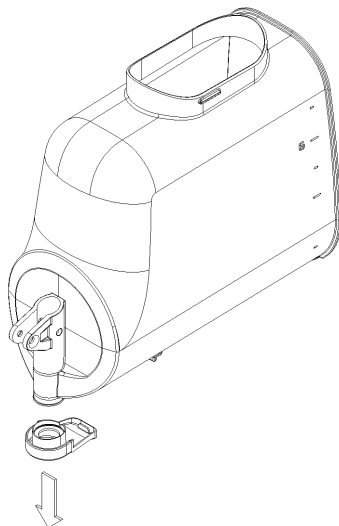

figure 12
- remove the flow restrictor from the container (see figure 12)
- 7 Remove the flow restrictor from the container (see figure 12).
5 Remove the flow restrictor from the container (see figure 12).